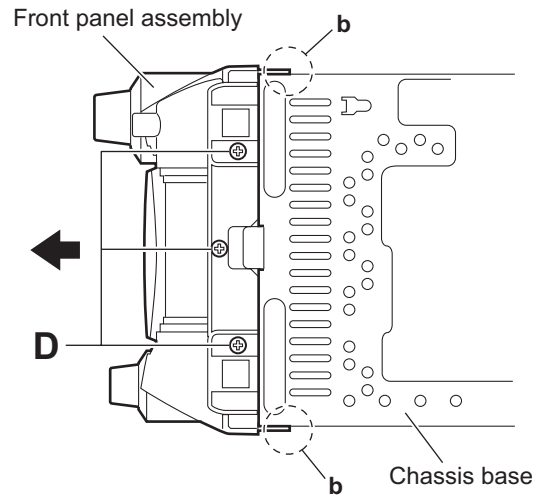

Fig.7
(7) From the bottom side of the main body, remove the three screws D attaching the front panel assembly. (See Fig.7.)